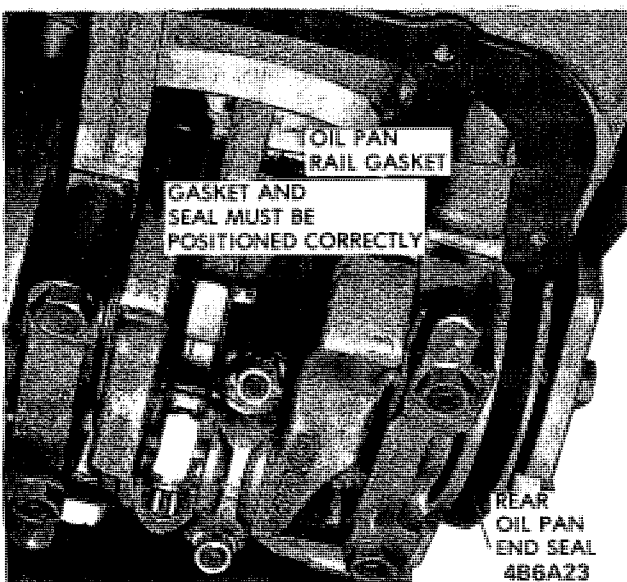

Figure 6A-70 - Oil Pan Gasket and Seal Installation
4. Apply silastic sealer to a few spots on a new pan gasket and install on block. *Make sure seal and gasket are properly fitted.* See Figure 6A-70. (455 cu.in. only).